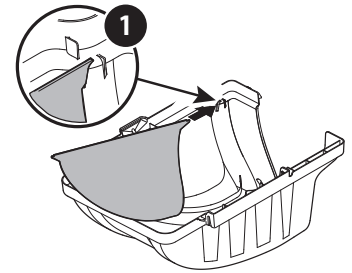

Figure 13
3. If not already done so by the factory, install the bagger screen (731-06504) into the bagger cover (631-04292) by first inserting the end closest to the side with the cutout (1) into the mounting hole, as in Figure 13.